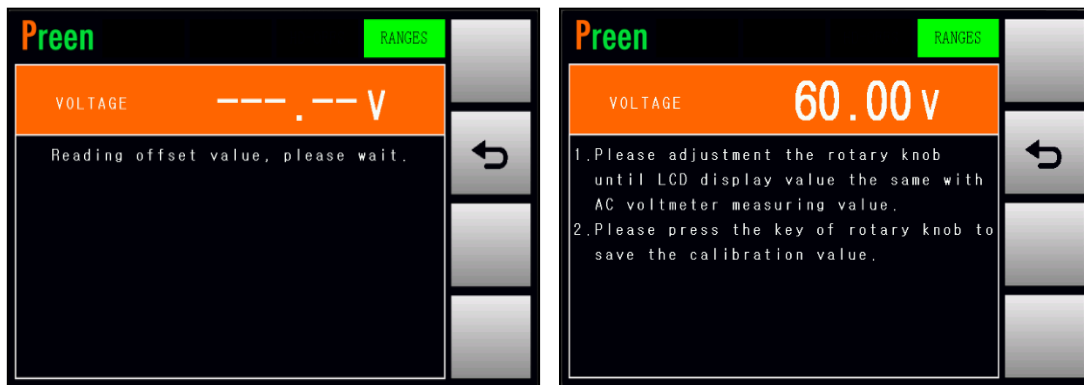

Figure 4.12 Enable the calibration of the LO-Range voltage 60V
3. Press the output & reset button on the front panel to enable the calibration of the LO-Range voltage 60V (refer to Figure 4.12), and then the product will start to output the voltage which is closed to 60V.